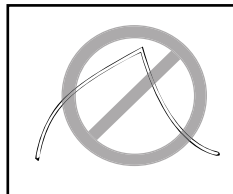
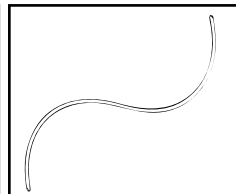

Figure 16
Figure 17
5. When routing wire away from the anastomotic site, a loose suture may be placed around the wire to ensure that it does not affect the orientation of the joined FlowCOUPLER rings. Optimal wire position would be aligned with probe tip. (see Figure 15) Do not bend probe wire at a sharp angle. (see Figure 16) See Figure 17 for an example of proper probe wire angle. Carefully position the probe wire to leave enough wire length in the wound, providing slack to assure there is no tension on the anastomosis.